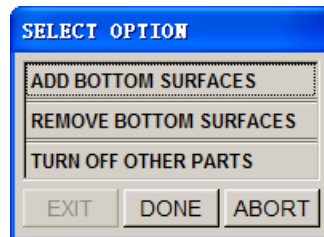
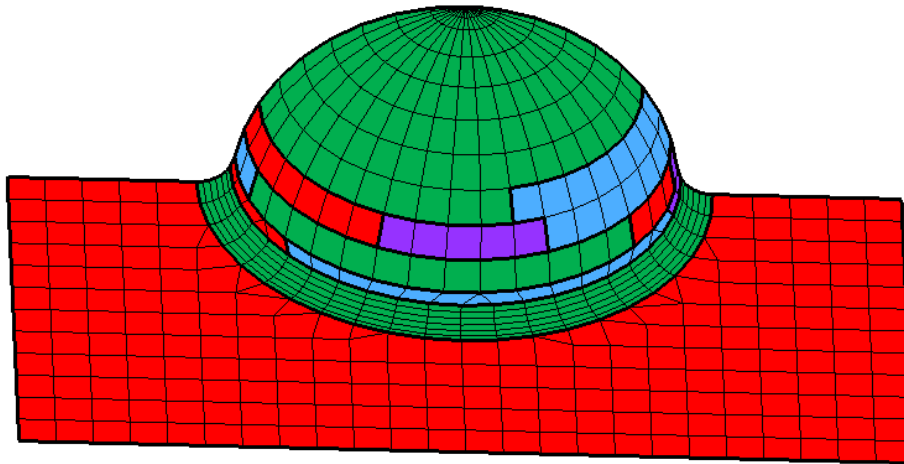

Figure 5.2.13 Select Option dialog box
Figure 5.2.17 Segment Mesh
3. User can click GROUP TOP SURFACE to group all top surfaces as illustrated in Figure 5.2.13. The grouped surfaces are highlighted, while the SELECT OPTION dialog box as illustrated in Figure 5.2.17, is displayed.
This function is used to control the size of mesh segment which determines the size of the generated surface. The default normal angle is 3 degrees. This normal angle is used to calculate the feature lines in the mesh. The user can enter a different angle value and then click Segment Mesh to segment mesh into regions, as shown in Figure 5.2.17. The program will generate a surface for each region.